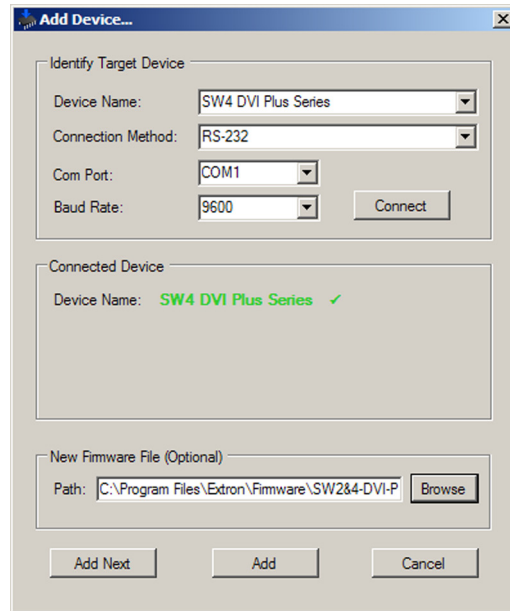

Figure 30. Path to the New Firmware File
7. Click **Connect**. If the connection is successful, **SW DVI Plus Series** appears in green in the Connected Device section, followed by a green check mark (see figure 30 on the next page).